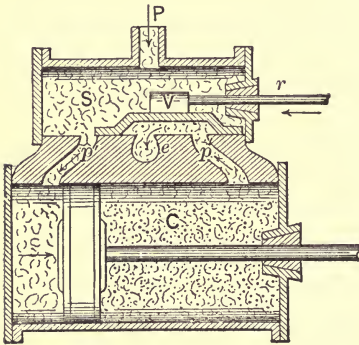

FIG. 93. — Cylinder and steam chest of steam engine.
*Cylinder and valves.* The parts so far described are used to convert water into steam. The rest of the engine converts the energy into the motion of the wheels. The steam is led from the boiler into the steam chest *S* (figure 93). From here two openings *p* and *p'*, called ports, lead to the cylinder *C*. Over these openings is the slide valve *V*, with its under surface hollowed out. This valve is connected with an eccentric. In the cylinder is a piston connected on the outside by means of a connecting rod with the drive wheel of the locomotive.